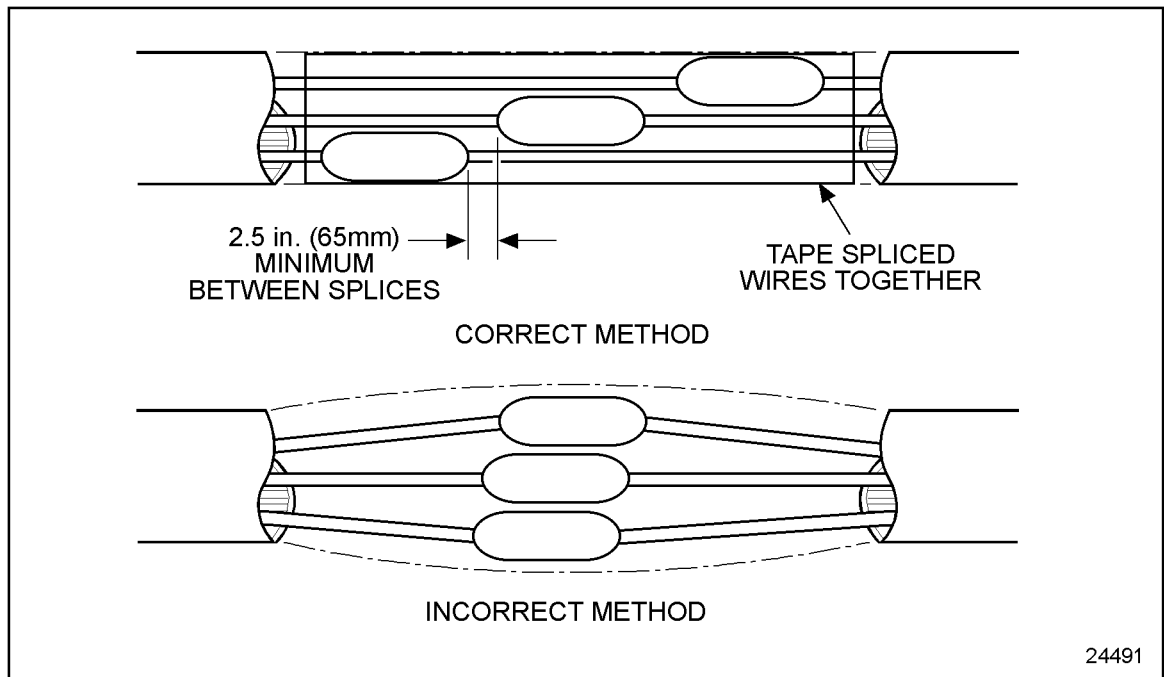

Figure 8-20 **Multiple Splices**
1. Stagger the position of each splice as illustrated. See Figure 8-20.